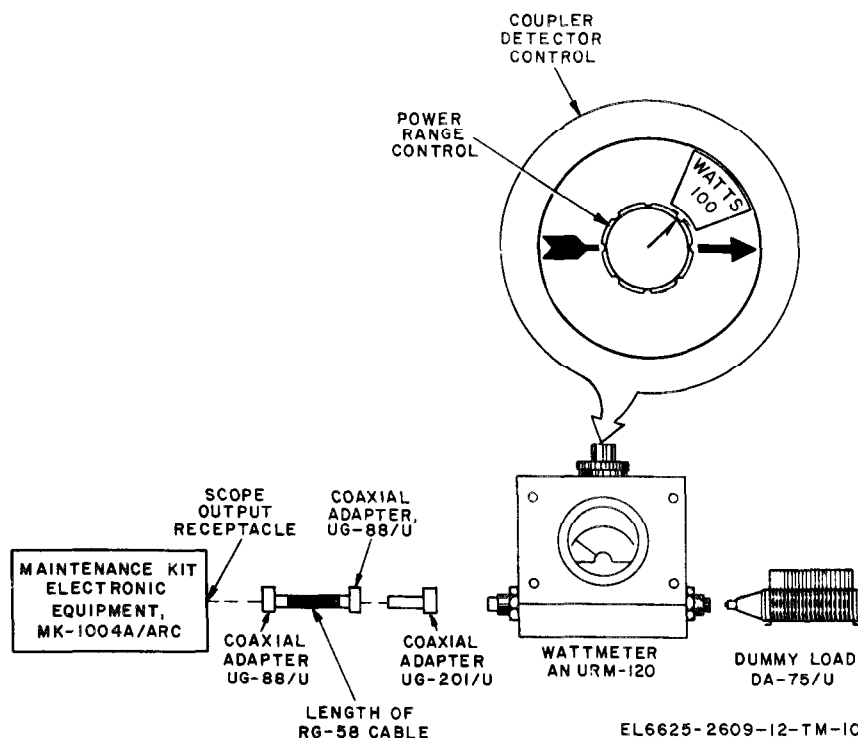

Figure 2-6. Wattmeter, Radio Frequency AN/URM-120 connected to maintenance kit detector.
(2) Connect the ME-30A/U to the test panel DETECTOR METER jacks. Set the ME-30A/U to the 10-volt range.
(3) Disconnect antenna connector W1P3 on the maintenance kit from the AN/URM-120, and connect W1P3 to the test panel DET INPUT receptacle.
(4) Connect the AN/URM-120 (fig. 2-6) to the test panel SCOPE OUTPUT receptacle.
(5) Set the test panel PTT switch to ON and increase the AN/URM-127 output level. Modulation should be indicated by a meter deflection on the ME-30A/U.
(6) Set PTT switch to OFF.